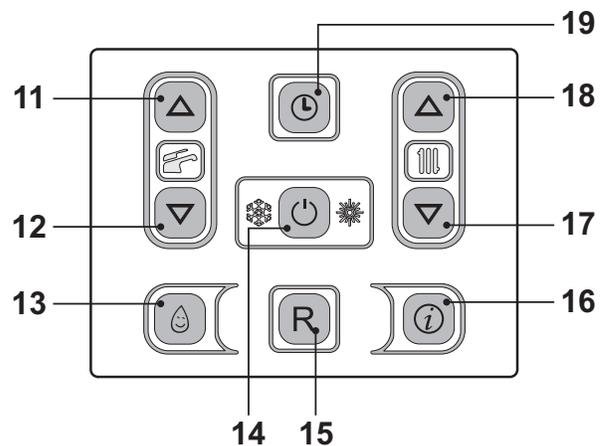
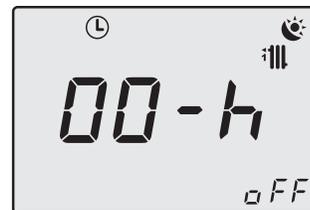

Fig. 2.19
Fig. 2.20
Enter the "timed manual heating function programming menu" by pressing keys 17 and 18 (Fig. 2.19) at the same time for 2 seconds until the symbols shown in Fig. 2.20 appear on the LCD display.
Press key 14 (Fig. 2.19) to modify the function status:
Press keys 11 or 12 (Fig. 2.19) to modify the time interval governing the forced heating function from a minimum of one hour to a maximum of 30 days.
To exit programming without making any modifications, press keys 17 and 18 (Fig. 2.19) at the same time for 2 seconds or wait for 60 seconds.
The function will end when the time set passes or when the function status is set to "oFF". Hold down keys 17 and 18 (Fig. 2.19) at the same time for 2 seconds until the remaining time and the status of the function in progress appears on the LCD display.
Press key 14 (Fig. 2.19) to modify the function status when in "oFF".
To exit programming without making any modifications, press keys 17 and 18 (Fig. 2.19) at the same time for 2 seconds or wait for 60 seconds